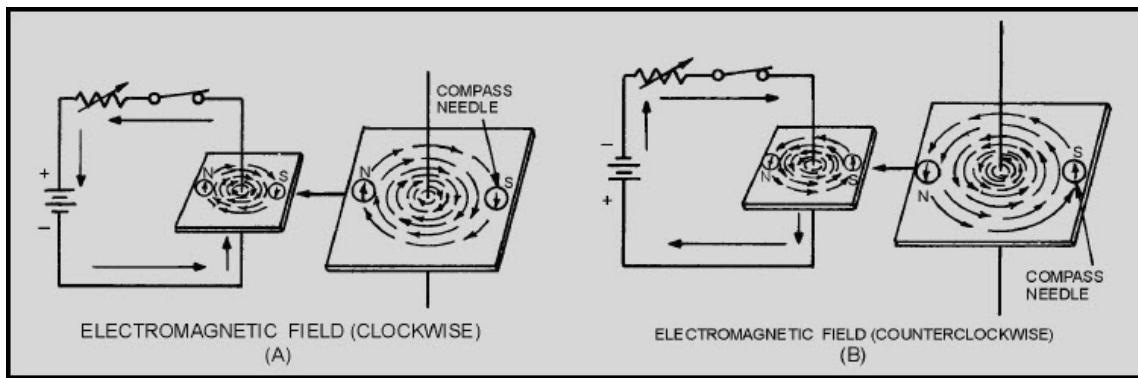

Figure 1-2 Magnetic field around a current-carrying conductor
If a compass is placed in the vicinity of a current-carrying conductor, the compass needle will align itself at right angles to the conductor, thus indicating the presence of a magnetic force. You can demonstrate the presence of this force by using the arrangement illustrated in figure 1-2. In both (A) and (B) of the figure, current flows in a vertical conductor through a horizontal piece of cardboard. You can determine the direction of the magnetic force produced by the current by placing a compass at various points on the cardboard and noting the compass needle deflection. The direction of the magnetic force is assumed to be the direction in which the north pole of the compass points.
In figure 1-2 (A), the needle deflections show that a magnetic field exists in circular form around the conductor. When the current flows upward (see figure 1-2(A)), the direction of the field is clockwise, as viewed from the top. However, if you reverse the polarity of the battery so that the current flows downward (see figure 1-2(B)), the direction of the field is counterclockwise.
The relation between the direction of the magnetic lines of force around a conductor and the direction of electron current flow in the conductor may be determined by means of the LEFT-HAND RULE FOR A CONDUCTOR: if you grasp the conductor in your left hand with the thumb extended in the direction of the electron flow (current) (– to +), your fingers will point in the direction of the magnetic lines of force. Now apply this rule to figure 1-2. Note that your fingers point in the direction that the north pole of the compass points when it is placed in the magnetic field surrounding the wire.
Figure 1-2 shows that the direction of the magnetic field around a straight wire depends on the direction of current in that wire. Thus, a reversal of current in a wire causes a reversal in the direction of the magnetic field that is produced. It follows that a reversal of the current in a coil also causes a reversal of the two-pole magnetic field about the coil.